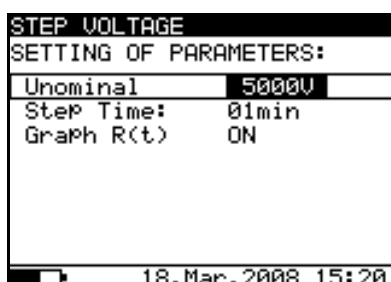

Fig. 36: Setting parameters
3. Press again the **SELECT** key to enter in the setup parameters section. The screen of Fig. 36 is shown by the meter
6. To activate the graphical screen the parameter Graph R(t) should be ON and the Timer must be activated (see Fig. 36). The time duration of graphical function is correspondent to the value of Step Timer multiplied by 5